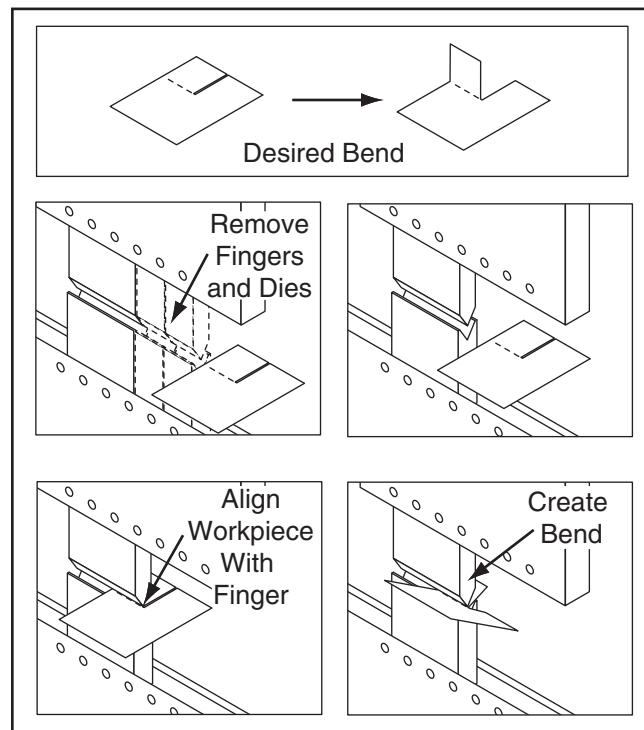

Figure 9. Pan & box bending.
2. Determine which fingers and dies must be removed to accomplish the desired bend. See **Figure 9** for an overview of how to create pan & box style bends to help you determine which fingers and dies must be removed for your particular operation.
5. Refer to **Basic Operations** on **Page 3** and **Figure 9** to perform the pan & box style bend.